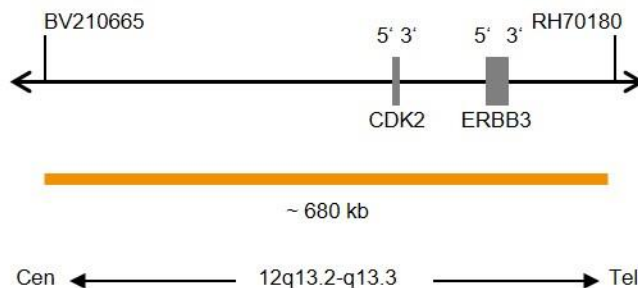

Fig. 1: SPEC ERBB3 Probe map (not to scale)
- ZyOrange (excitation 547 nm/emission 572 nm) labeled polynucleotides (~4.5 ng/ μ l), which target sequences mapping in 12q13.2-q13.3* (chr12:55,938,458-56,616,182) harboring the ERBB3 gene region (see Fig. 1).